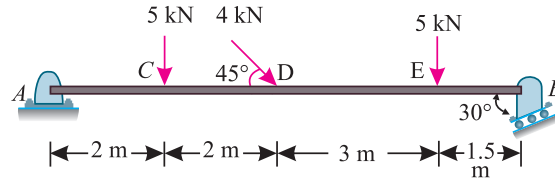

Fig. 12.21.
**Example 12.8.** A beam AB 8.5 m long is hinged at A and supported on rollers over a smooth surface inclined at 30° to the horizontal at B. The beam is loaded as shown in Fig. 12.21.